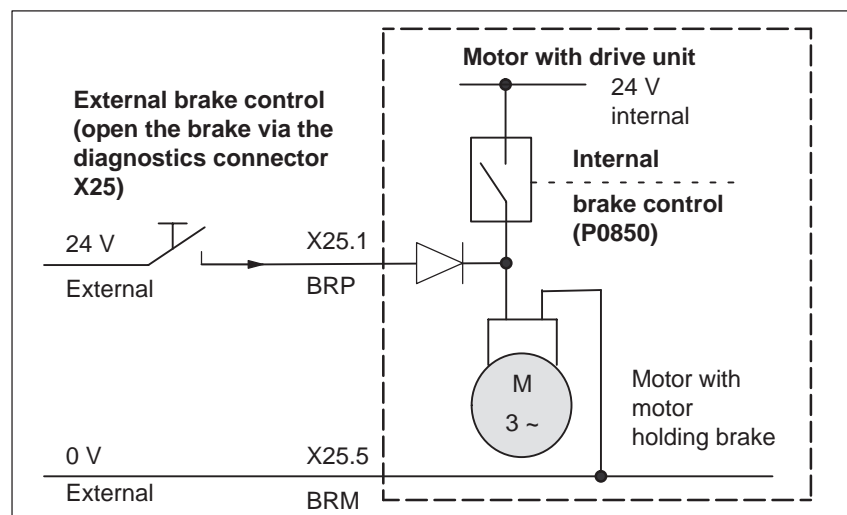

Fig. 6-47 Example: Controlling the motor holding brake via the diagnostics connector X25
As an alternative, the motor holding brake can be manually opened by connecting an external 24 V to X25.1/X25.5 (refer to Fig. 6-47).
1. Connect-up the external brake control through X25 so that the motor holding brake, when necessary, can be manually opened (refer to Fig. 6-47).